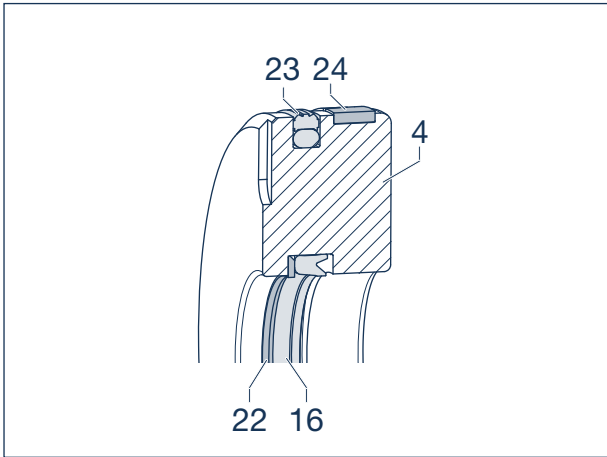

Figure 19
Pay attention to the correct installation position of rod seal (16). See Figure 19.